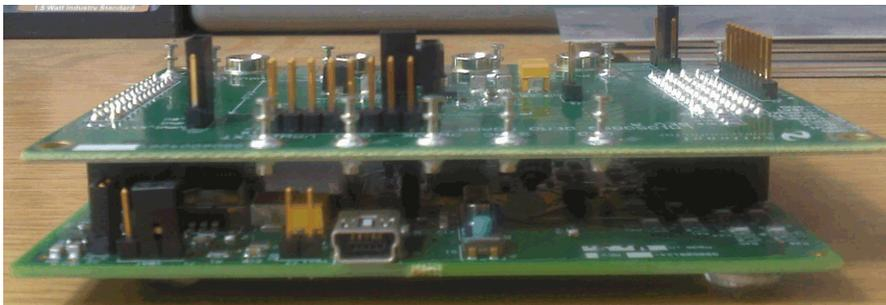

Figure 4. Connecting the LM10500 Evaluation Board to the USB2PWI Interface Board
J4 J5 J6	Connectors to the USB2PWI board shown in Figure 4 see Section 8.2 .
The unique feature of the LM10500 is close-loop Adaptive Voltage Scaling (AVS) capability. The LM10500 operates cooperatively with PowerWise® AVS compatible ASICs, SoCs, and processors to optimize supply voltages adaptively over process and temperature variations. To simplify the evaluation of the AVS functions in the LM10500, the evaluation board is designed to operate with the USB2PWI interface board (included in the evaluation kit). With the USB2PWI board, PWI registers and LM10500 operating states can be controlled by a PC via a simple register-based Graphical User Interface (GUI). Connect the LM10500 evaluation board on top of the USB2PWI board by J4, J5 and J6, as shown in Figure 4, then connect the USB2PWI board to a PC with a 5-pin mini USB cable (included in the evaluation kit).
1. Connect the LM10500 Evaluation Board to the USB2PWI Interface Board (as in Figure 4) and plug the USB2PWI board to a PC using a USB cable. Apply PVIN and AVIN power to the LM10500 Evaluation Board. Part is enabled by default. Press the reset button on the SUB2PWI board. The reset button is the blue button located right next to the USB connector.